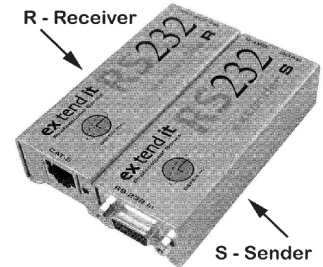

Fig. 5
- The RS extender receiver is marked with an R, and the sender is marked with an S (Fig. 5).